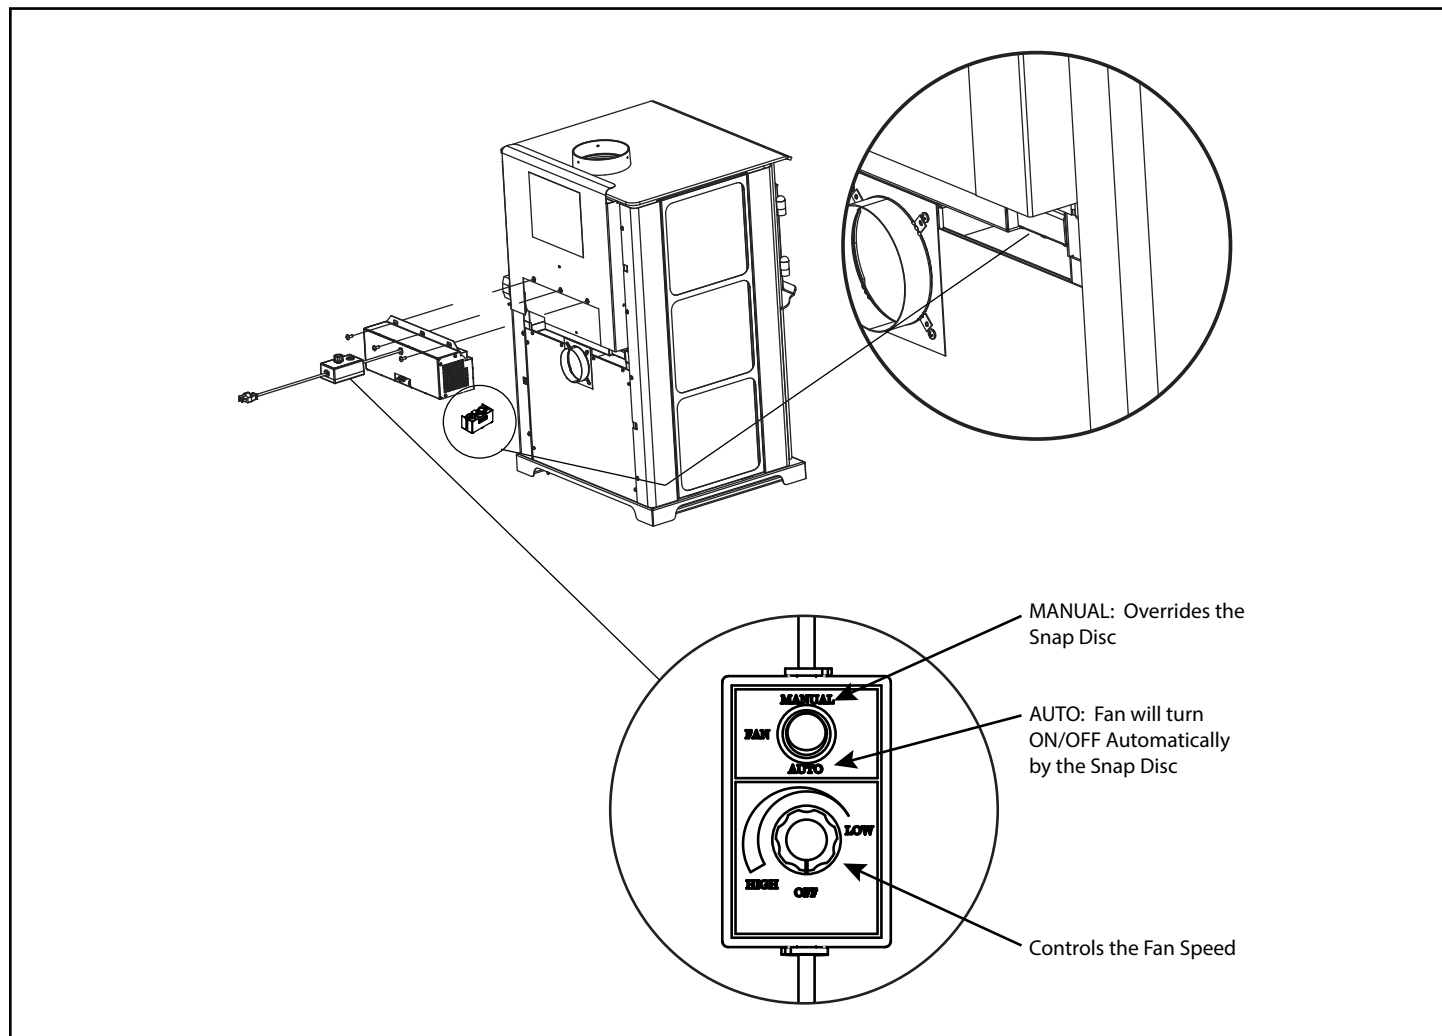

Figure 18.2
2. Align holes in mounting flange of blower with bolt holes in appliance. Blower should be positioned at bottom of rear outer skin as shown in **Figure 18.2**